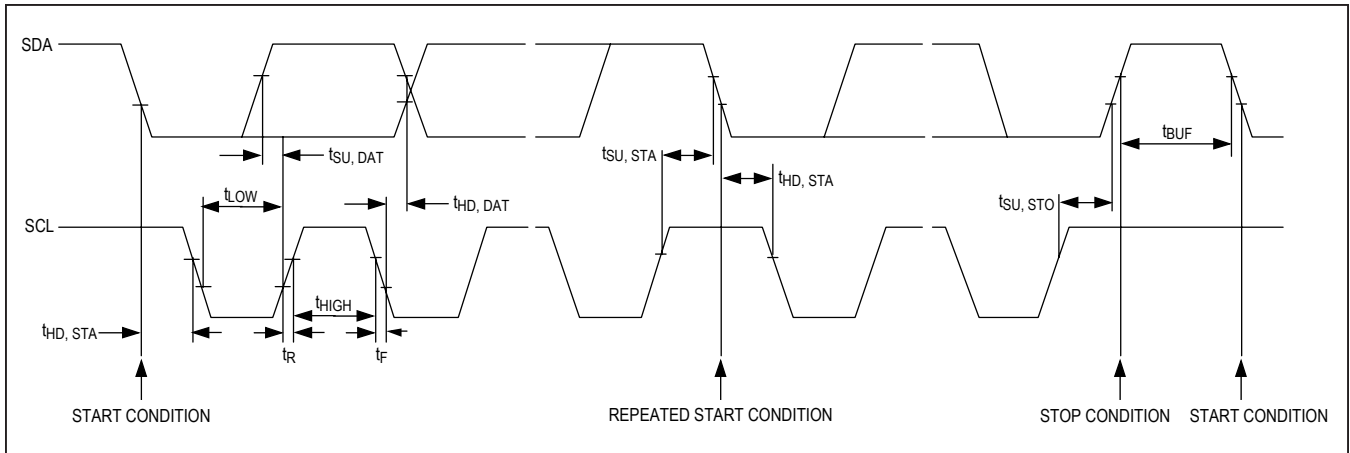

Figure 2. 2-Wire Serial Interface Timing Details
**Timing Characteristics (Figure 2)**(V+ = 2.5V to 5.5V,  $T_A = T_{MIN}$  to  $T_{MAX}$ , unless otherwise noted.) (Note 1)
The MAX6956 operates as a slave that sends and receives data through an I2C-compatible 2-wire interface. The interface uses a serial data line (SDA) and a serial clock line (SCL) to achieve bidirectional communication between master(s) and slave(s). A master (typically a microcontroller) initiates all data transfers to and from the MAX6956, and generates the SCL clock that synchronizes the data transfer (Figure 2).